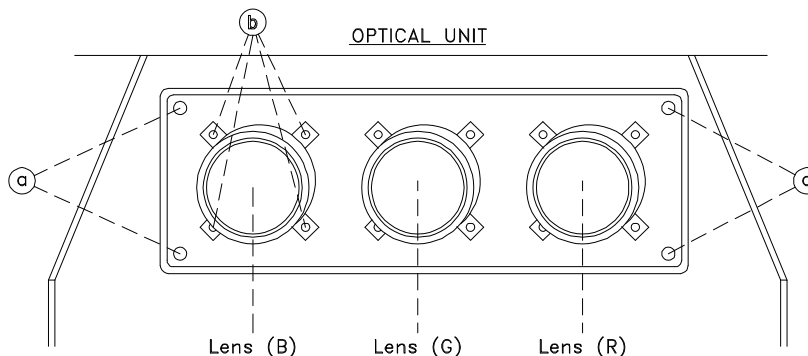

Figure 5-1
5. Remove 4 hex-screws "a" retaining the Optical Unit. [Figure 5-1]
3. Install the Lens that was removed in step 6 of Removal Of The CRT. [Figures 5-1 and 5-2]
- b) Install the mounting screws "b". [Figure 5-1]